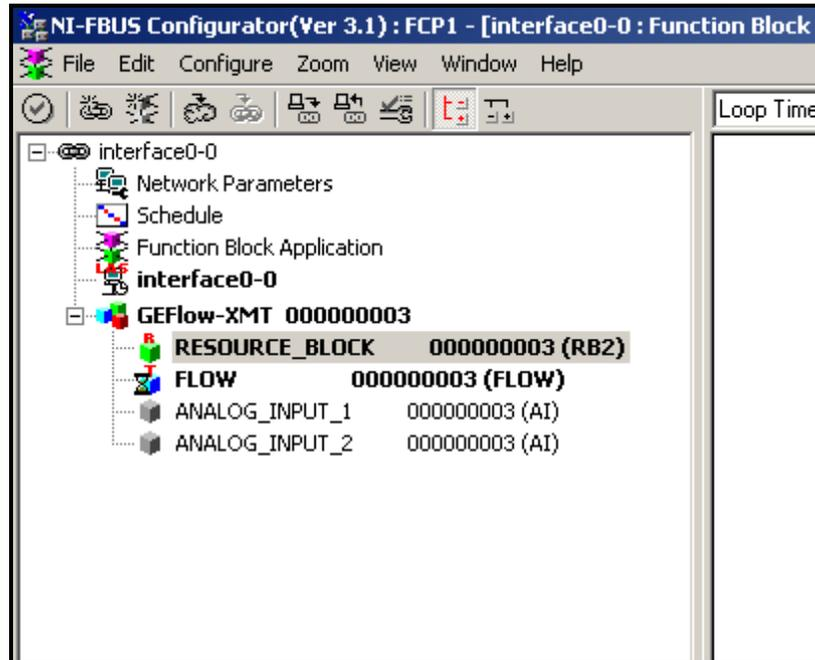

Figure 48: Configuration Utility Setup Example
Figure 48 shows the Configuration Utility with a flowmeter on the network (GE Flow-XMT).
1. Double click on the AI block for which you wish to set the units (ANALOG_INPUT_1 or ANALOG_INPUT_2 in the tree under GEFLOW-XMT; see Figure 48 on page 62).
1. Double click on the FLOW transducer block (in the tree under GEFLOW-XMT; see Figure 48 on page 62).